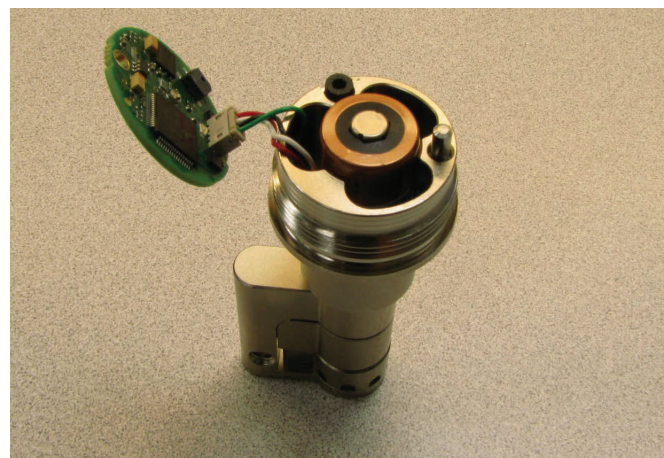

Figure 8: Battery Access
3. Flip the circuit board up to access the battery. See Figure 8.